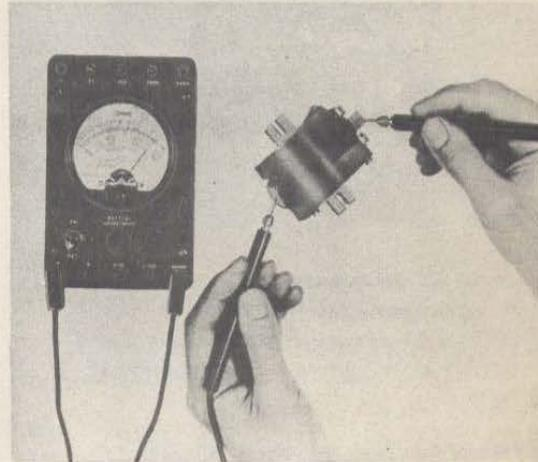

Figure 16—Checking Resistance of Secondary Winding of Coil
a. Before installing the coil in the magneto check the resistance of the secondary winding with the No. 11-2602 ohmmeter. The reading must be from 5000 to 8000 ohms. (See figure 16.)